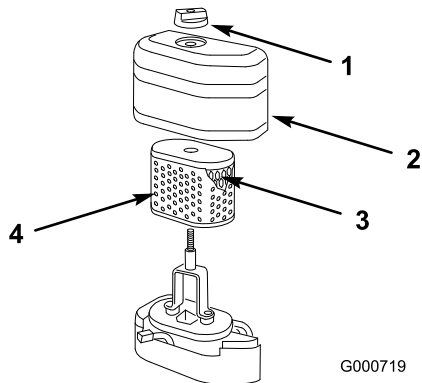

Figure 28
2. Unscrew the knob and remove the air cleaner cover (Figure 28).